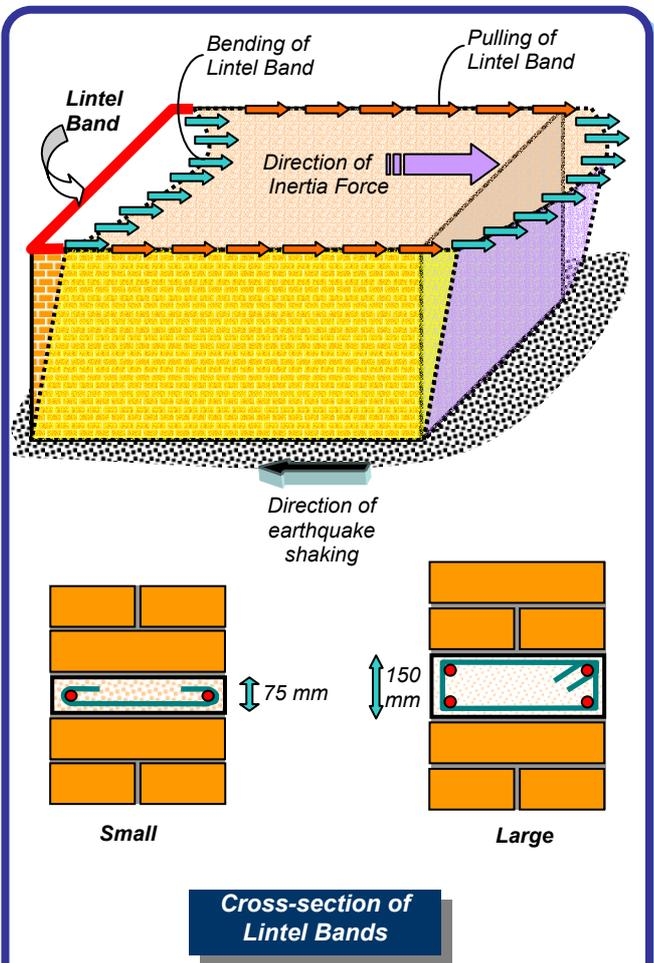
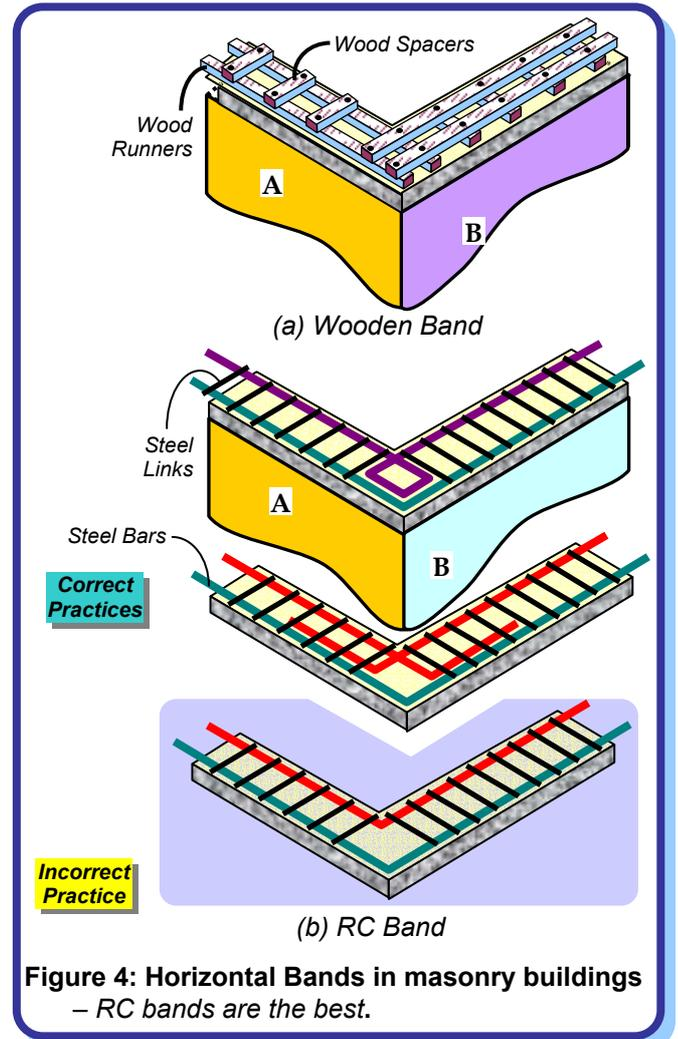

Figure 3: Bending and pulling in lintel bands – Bands must be capable of resisting these.
Figure 4: Horizontal Bands in masonry buildings – RC bands are the best.
During earthquake shaking, the lintel band undergoes bending and pulling actions (Figure 3). To resist these actions, the construction of lintel band requires special attention. Bands can be made of wood (including bamboo splits) or of reinforced concrete (RC) (Figure 4); the RC bands are the best. The straight lengths of the band must be properly connected at the wall corners. This will allow the band to support walls loaded in their weak direction by walls loaded in their strong direction. Small lengths of wood spacers (in wooden bands) or steel links (in RC bands) are used to make the straight lengths of wood runners or steel bars act together. In wooden bands, proper nailing of straight lengths with spacers is important. Likewise, in RC bands, adequate anchoring of steel links with steel bars is necessary.